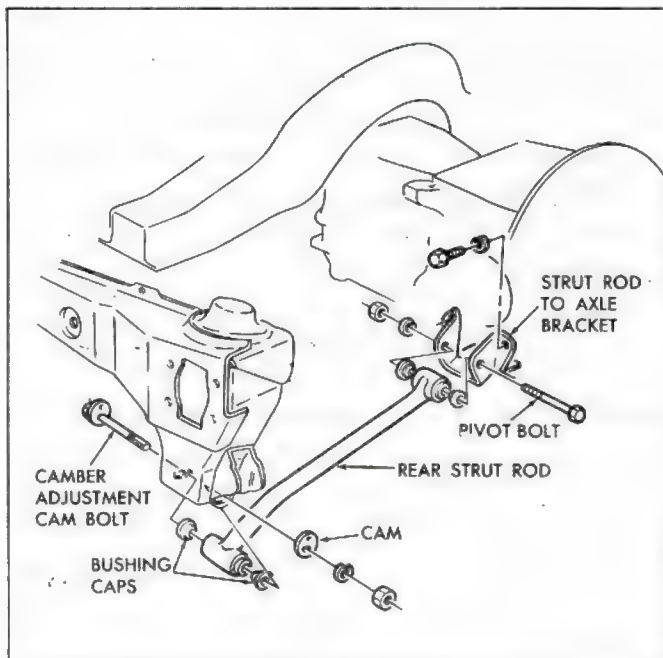

Fig. 76—Rear Strut Rod Attachment
2. Disconnect strut rod bracket at differential carrier (fig. 76).